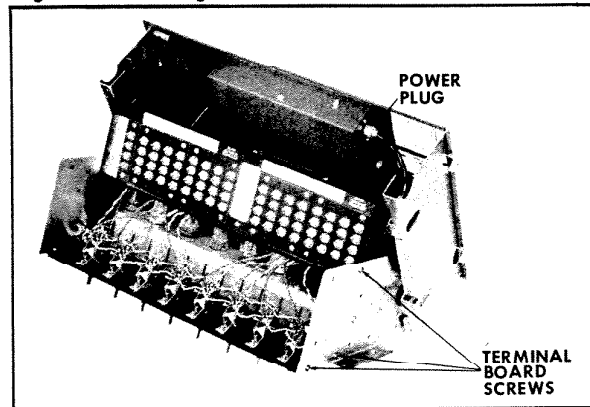

Fig. 4. Terminal Board Screws and Power Plug.
6. Slide unit out until it rests against the slide stops, and tilt it forward from the top. Unit will now rest securely at a 45° angle. (See Fig. 4.) NOTE: Unit can be operated from this position.
2. Remove six Phillips head screws holding terminal board to chassis. (See Fig. 4.) Disconnect the 4-pin plugs at each end of the terminal board. Remove terminal board from chassis.
Plug power cord into receptacle in junction box. (Fig. 4.)